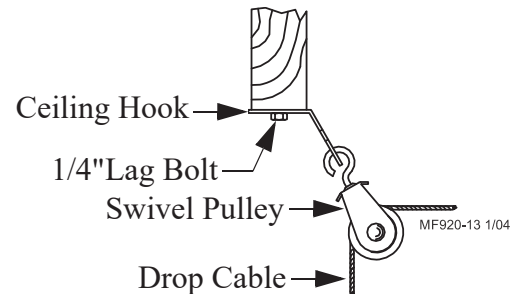

Figure 19. Pulley Installation
6. After securing the Ceiling Hook to the truss, slide the hook of a Swivel Pulley into the slot, as shown in **Figure 19**.